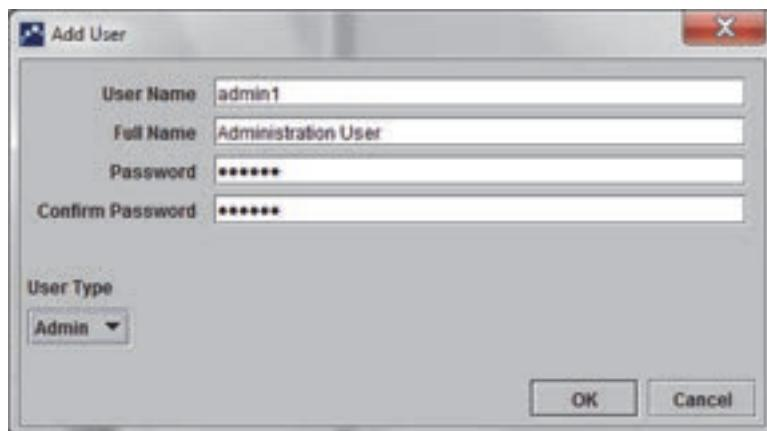

Figure 2-72. Add User Dialog Box
3. Click **Add**. The Add User dialog box appears. See Figure 2-72.